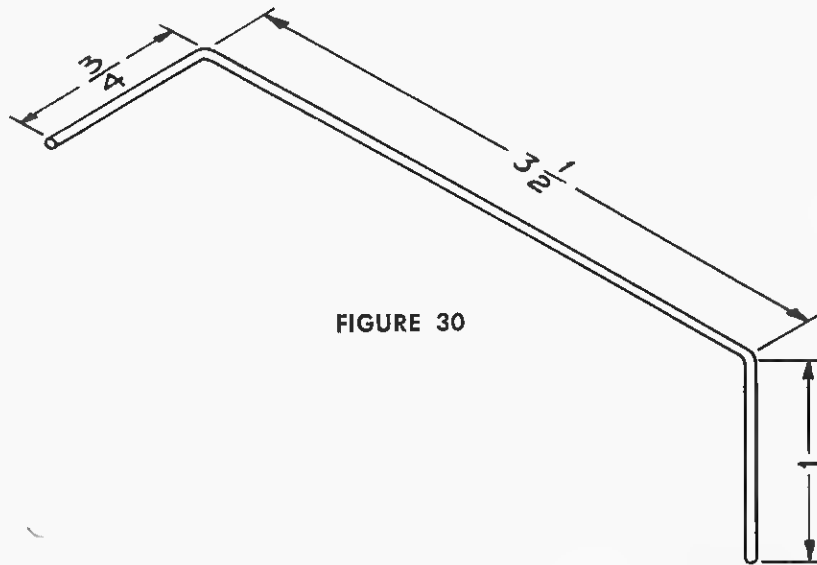

FIGURE 30
- ☒ $5\frac{1}{4}$ " heavy bare wire. From this wire to the dimensions shown in Figure 30. Solder the end with the short bend to terminal 13 of wafer 1. Solder the other end to terminal 1 of TS-9 (2 wires).